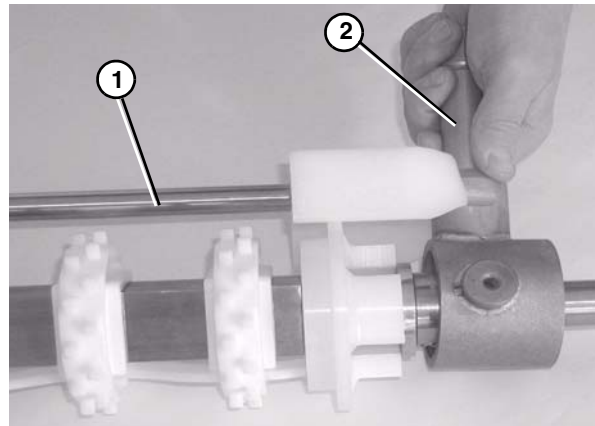

Figure 82
- Attach the guard bar (**Figure 82, item 1**) to the bearing / motor mount bracket shafts (**Figure 82, item 2**).